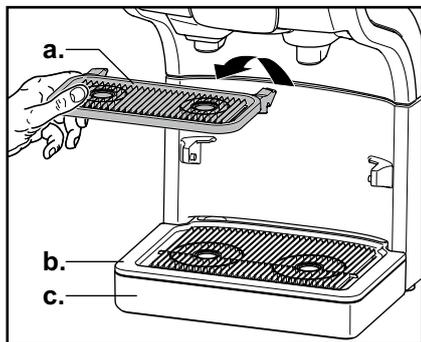

Fig. 49
2. Remove cup tray (a.), drip grid (b.), and drip tray (c.) (fig. 49).